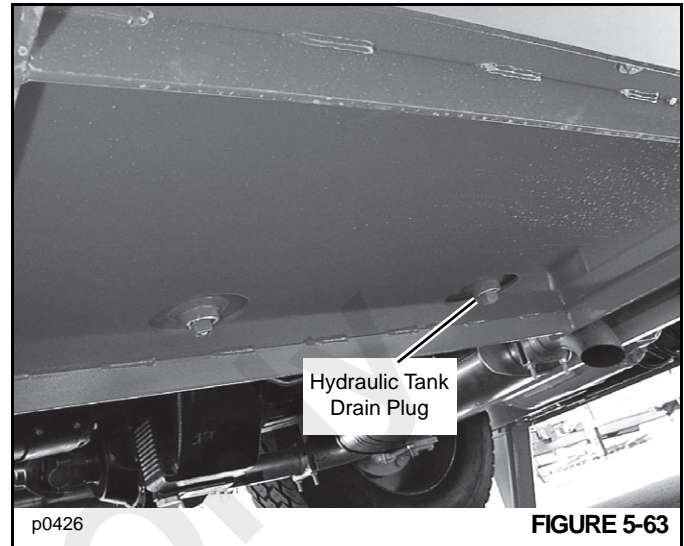

FIGURE 5-63
5. Place a suitable container under the hydraulic pump, located in front of the engine Figure 5-63.